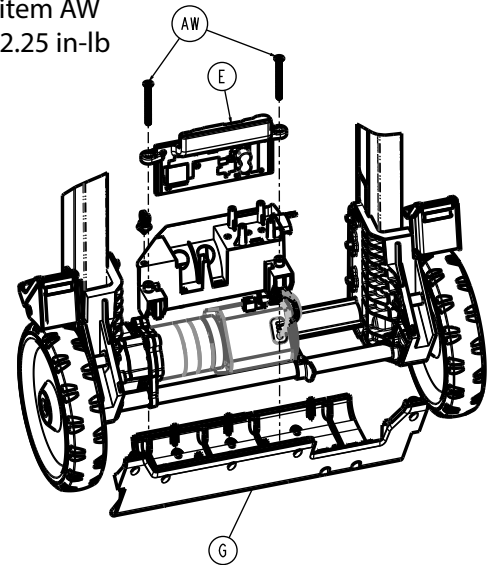

Figure 25 –
3. Using a 1/8" hex wrench, remove the two flat countersunk head cap screws (AW) that secure the power box PCBA (E) to the power box lower cover (G) (Figure 25). Save the screws.